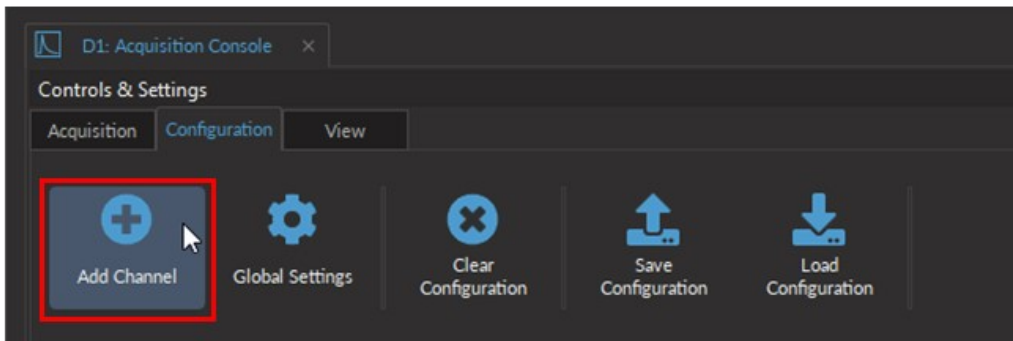
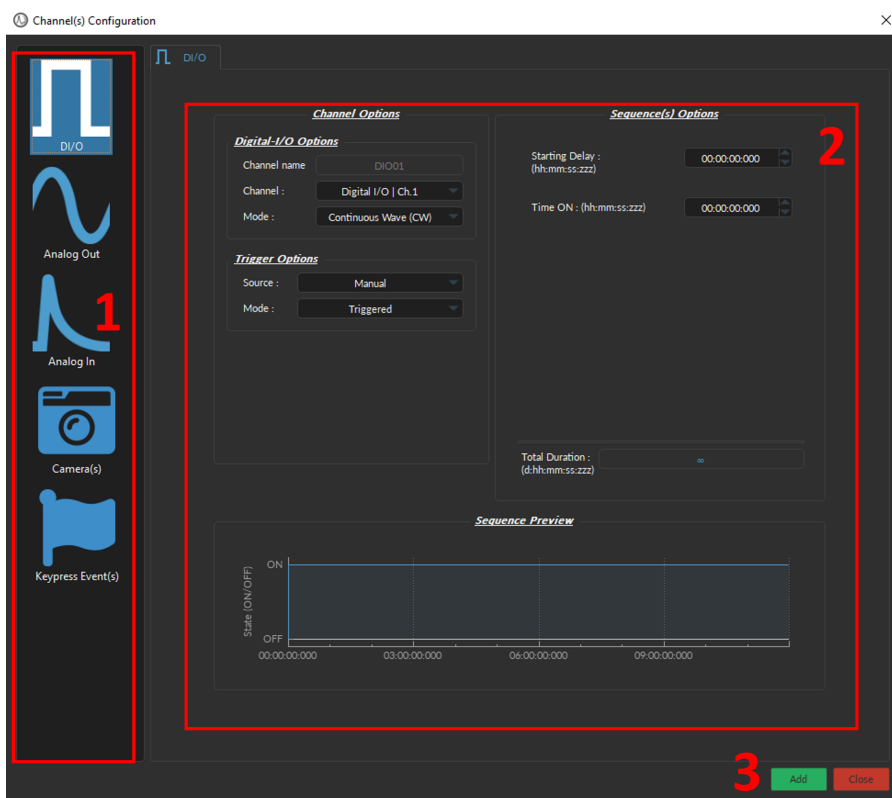

Figure 6.11: Add Channel button opens the Channel Configuration window
Figure 6.12: Channel(s) Configuration, Digital I/O input
To create a new channel, regardless of the input and/or output type, select the **Add Channel** button, which can be found under the **Configuration** tab (Fig. 6.11). This will open the **Channel(s) Configuration** window (Fig. 6.12).
To generate a new **Channel** using the **Channel(s) Configuration** window (Fig. 6.12):
1. Select one of the available **Channel Type** icons from the left most column of the **Channel(s) Configuration** window (Fig. 6.12). Table 6.1 describes the use case of each type.
3. Select the **Add** button (Fig. 6.12) to generate the defined channel or to update an already configured channel, but does not automatically close the *Channel Configuration* window. This allows the user to conveniently set up all required channels one after the other.
Different types of input and output can be configured for the specifics of the experiment by creating a new Channel in the Configuration tab or editing an existing one (Fig. 6.11). Table 6.1 details the types of inputs and output the console and the software can handle and gives quick access to their sections.